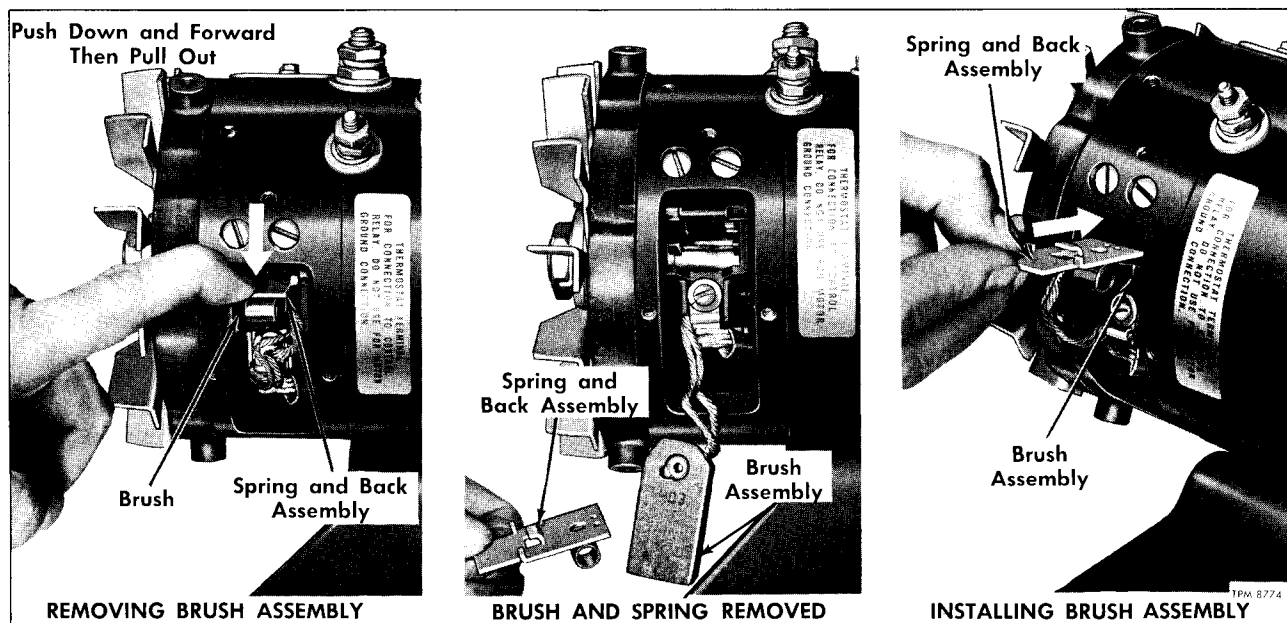

Figure 24—Replacing Underfloor Blower Motor Brushes
3. To replace brushes, refer to figure 24, which shows operational brush replacement views.
a. To remove individual brush, push down on spring and back assembly, then forward toward brush to disengage back from retaining lugs. See left view of figure 24. Release back, and remove
b. Center view of figure 24 shows brush separated from spring and back. Remove screw which secures brush cable to bracket. Remove brush.
c. Install new brush in brush holder, insert back and spring assembly inward beyond installed position, then away from brush to engage internal retaining lugs as shown in right view of figure 24.